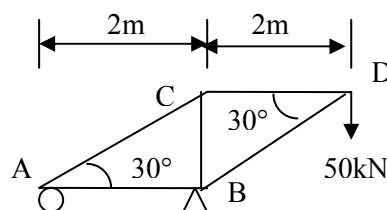

Fig.1
- Q.4** (a) Determine the member forces in the truss shown in fig.1, using a joint equilibrium approach. **07**